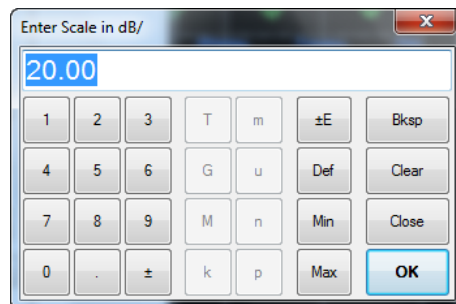

Figure 2-11 Vertical scale keypad dialog
- 6 The vertical scale keypad dialog is displayed as shown in Figure 2-11.